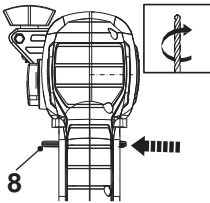

Fig. 10
1. Move the forward / reverse rotation control (8) to the left (as seen from the operator's position) in order to use the product in a clockwise rotational mode (Fig. 10).